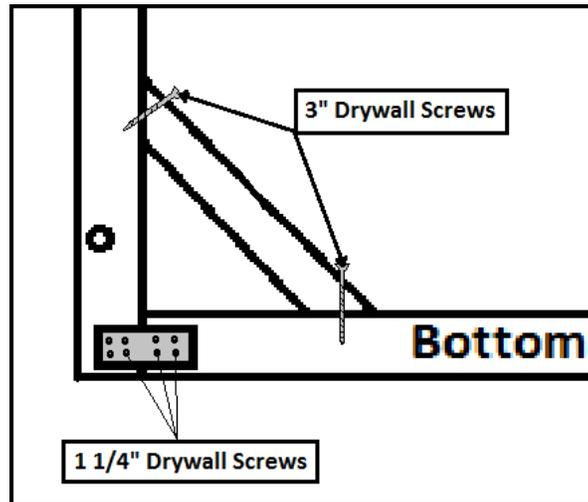

Figure 2-4
2. Connect using a mending plate with 1 1/4" drywall screws and corner brace with 3" drywall screws (Figure 2-4).